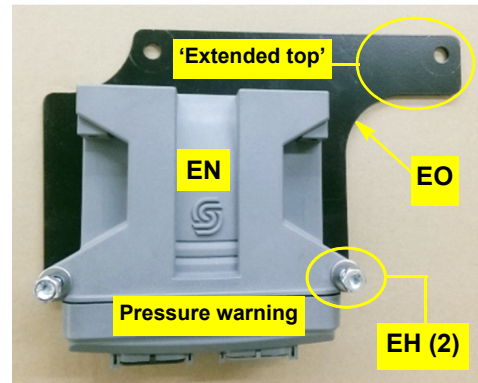

Figure 1a: Steering controller mounted on bracket
- a. Using hardware **EH**, mount steering controller **EN**—pressure warning outward (not shown)—against the large face of bracket **EO**, with **EO**'s 'extended top' to the right (Figure 1a).